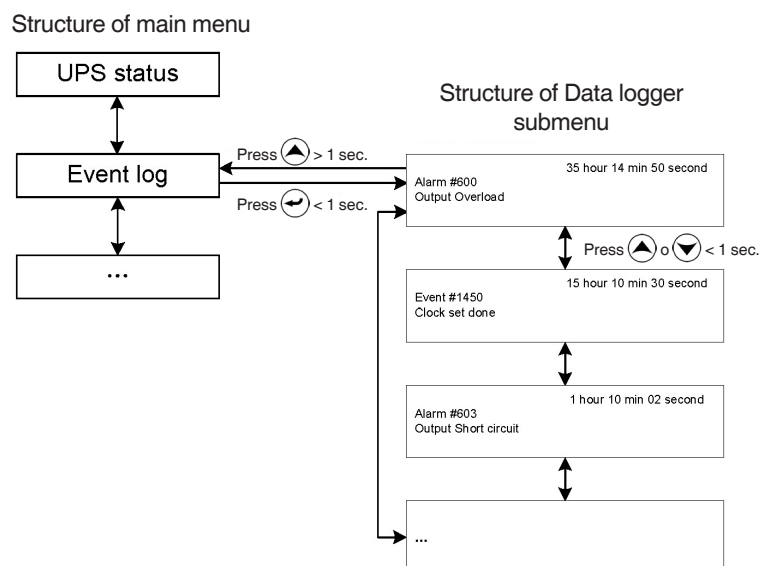

Fig. 32. Event logger submenu.
- When pressing the key \odot for less than 1 sec. from the "Event log" screen, it is accessed to the event data logger structure (see figure 32).